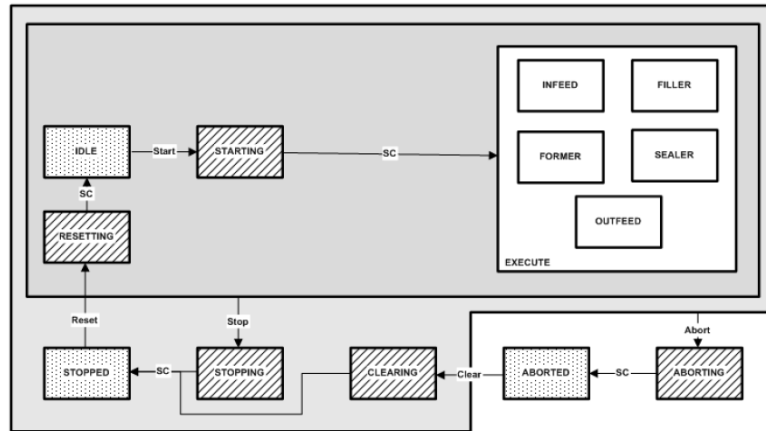

Figure 17 – Manual Mode State Model
Assuming the Unit Machine is in the Manual Mode, Execute state as shown in the State Model Figure 17. During the execution of the Execute State machine control logic in Equipment Module 00 and Control Module 02, it is necessary for the machine to go into “Stop State”, the following logic can be used:
- Referring to the State Model Figure 17, the Stopping State will transition to the Stopped State when the execution in the Stopping State is complete.